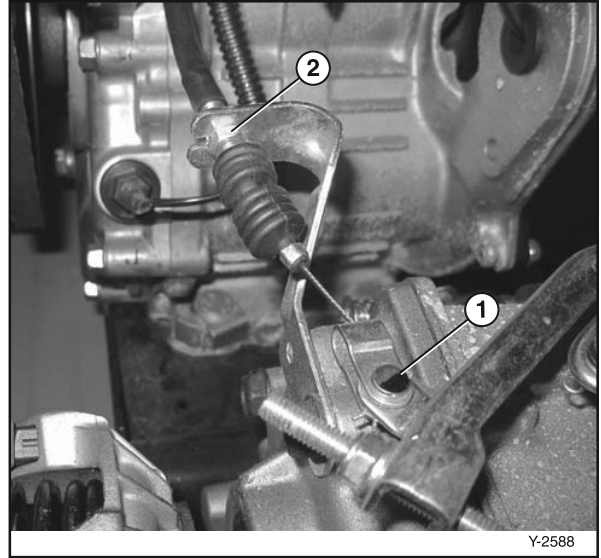

Figure 6-34
- 17. Remove the clevis pin (Figure 6-34, (1)) and disconnect the throttle cable.
- 18. Loosen the jam nuts (Figure 6-34, (2)) and remove the throttle cable from the bracket.